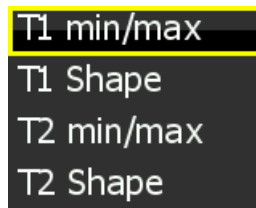

Figure 40: Tank options.
When selecting the Tank option a window illustrated in Figure 40 opens. *T2* options are shown only when the second fuel level channel is also active.
1. Select the *Tank* option from the main menu. This offers further selection according to the Figure 40.